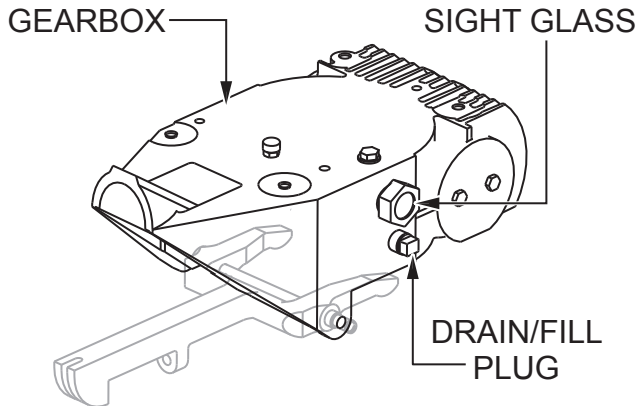

Figure 22. Gearbox Oil
1. Look at the sight glass on the side of the gearbox (Figure 22) to determine if gearbox oil is low. The correct oil level is to the halfway point on the sight glass.
2. If gearbox oil is low, remove the drain/fill plug (Figure 22) and fill with Chevron Cetus HiPerSYN 460 synthetic oil until the correct oil level is reached. Replace the drain/fill plug when finished.